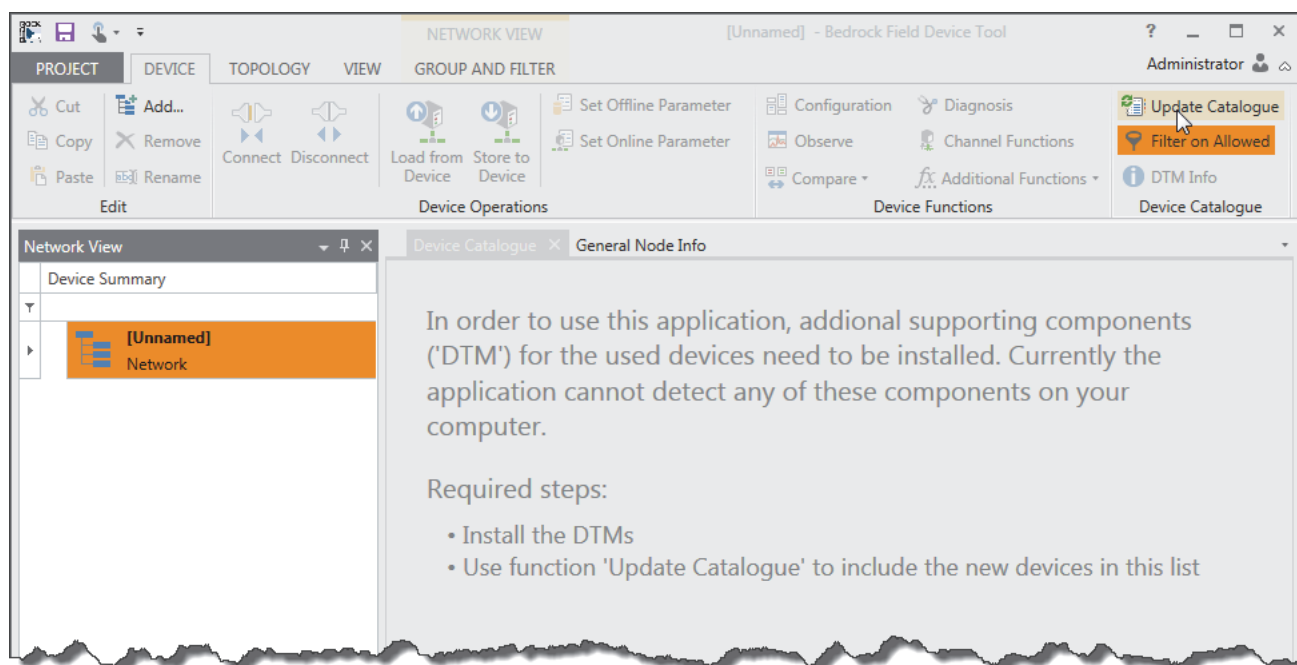

Figure 11-1 New FDT Project
2. Create a blank project from the start page of the Bedrock FDT. A network node will be highlighted in the Network View (see Figure 11-1). If the DTMs were installed for the first time or if existing DTMs were updated, the device catalogue will need to be updated as shown in the figure.